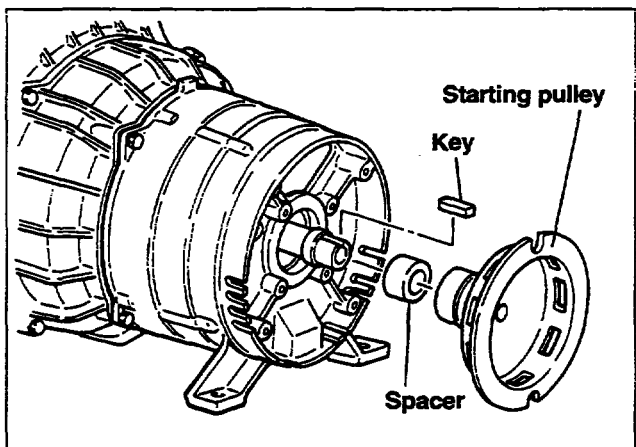

Fig. 10-33
(1) Remove the through bolt which has been tentatively attached to the rotor.
(2) Insert the key into the keyway of the rotor shaft. (See Fig. 10-33.)